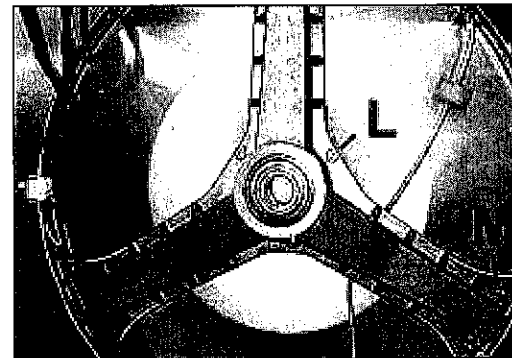

fig. 25
- Fasten the center of the bearings' box to the center of the back of the outer drum by means of the **L** screws and the corresponding washers (fig. 25). Do not tighten.
- Fasten the ends of the bearings' box to the edge of the outer drum by means of the **M** screws and the corresponding nuts and washers (fig. 25).